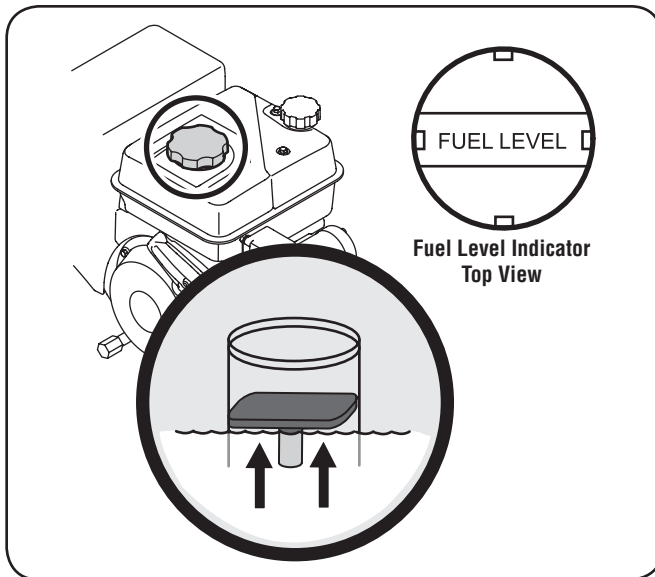

Figure 3-7
2. A fuel level indicator is located in the fuel tank. Fill tank until fuel reaches the fuel level indicator, Fig. 3-7. Be careful not to overfill.